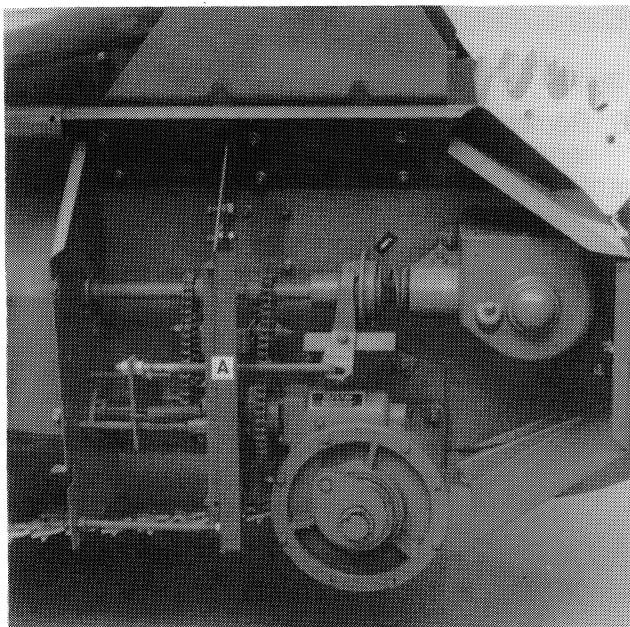

FIGURE 1
1. Remove the beater support brace, A, Figure 1.